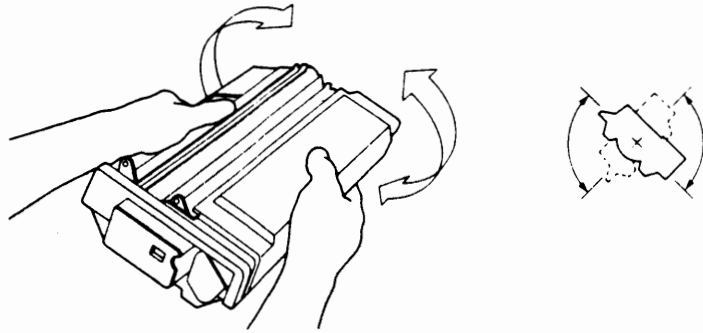

FIGURE 1-9
1. When installing a cartridge, hold it horizontally and rock it slowly back and forth 45°, to distribute the toner. (Figure 1-9.)
CAUTION: To avoid toner spillage after a toner cartridge's seal is broken, hold it by the handle and rear only, as shown in Figure 1-9.